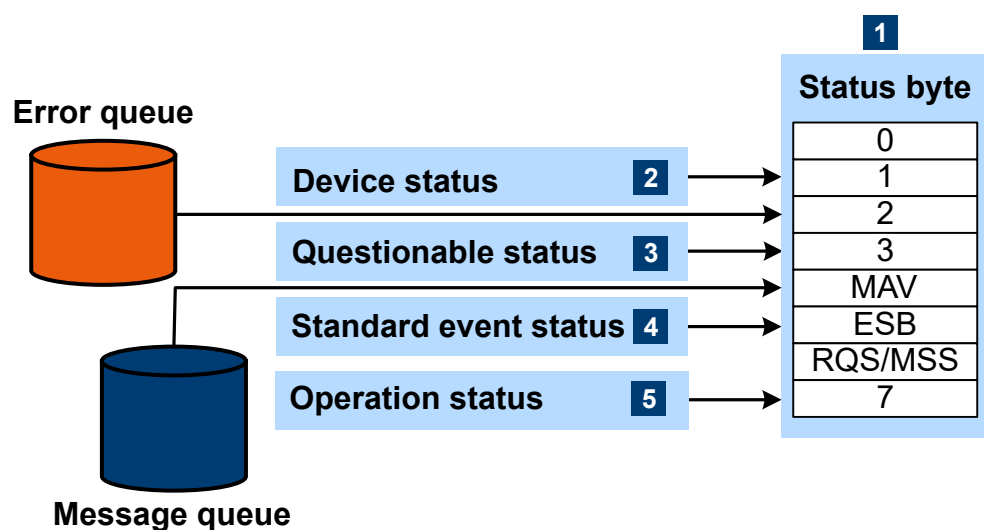

Figure 14-1: Status registers overview
Fig.14-1 shows the hierarchical structure of information in the status registers.
- See Figure 14-1.